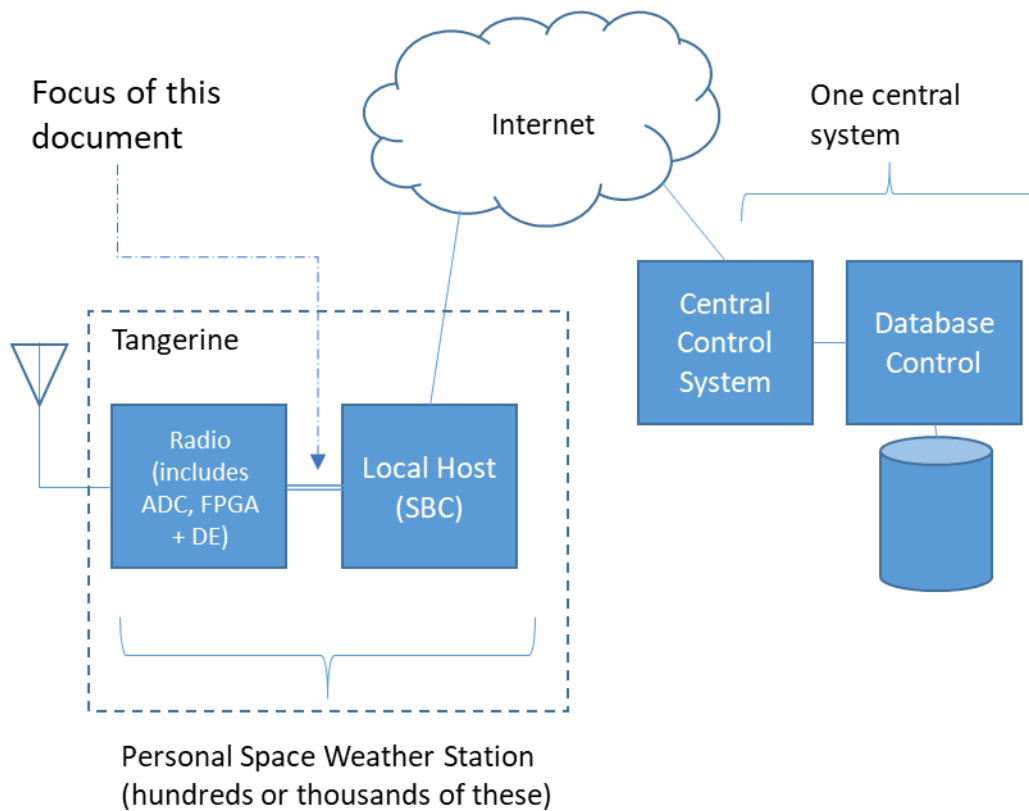

Figure 1. Conceptual Overview.
Figure 1 shows an overview of the system architecture. This document is concerned with the communication (solely within the Tangerine) between the Local Host (LH) and the DE.
The overall process flow is designed to allow multiple Data Engines and multiple Local Hosts to be on the same Local Area Network, each (potentially) supporting multiple channels (each potentially with multiple subchannels), and maintain connectivity as needed without confusion. For this, we have the concept of channel pairs. For purposes of explanation, we designate the involved ports with letter designations A through F. Refer to Figure 1. (The narratives in the Use Cases explain the process in more detail).
First, we use a discovery process to connect the DE and LH. See Figure 1, below.
- The LH sends a discovery packet from its provisioning port (“Port A”); Figure 1, above. The DE determines the Port A port# from the Source Port field in the UDP header. (LH knows outbound port# via a getsockname call).